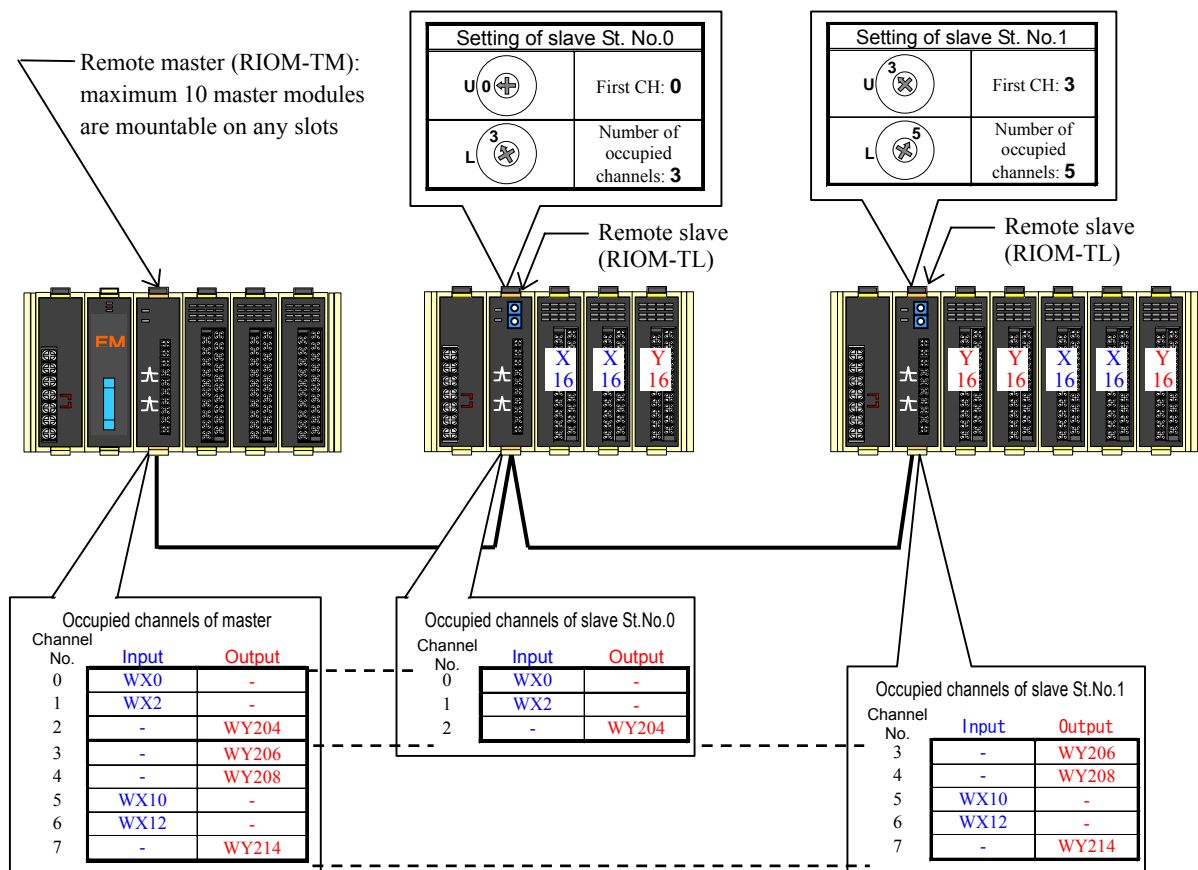
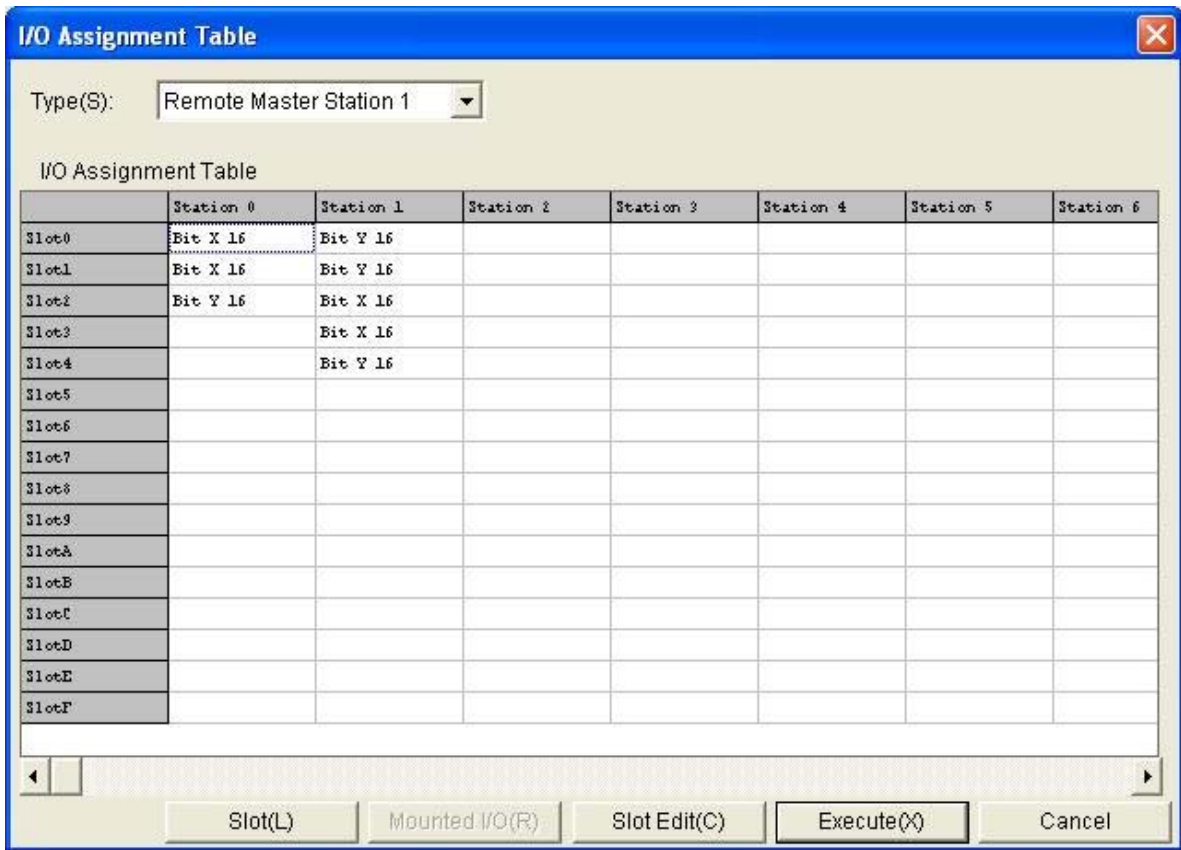
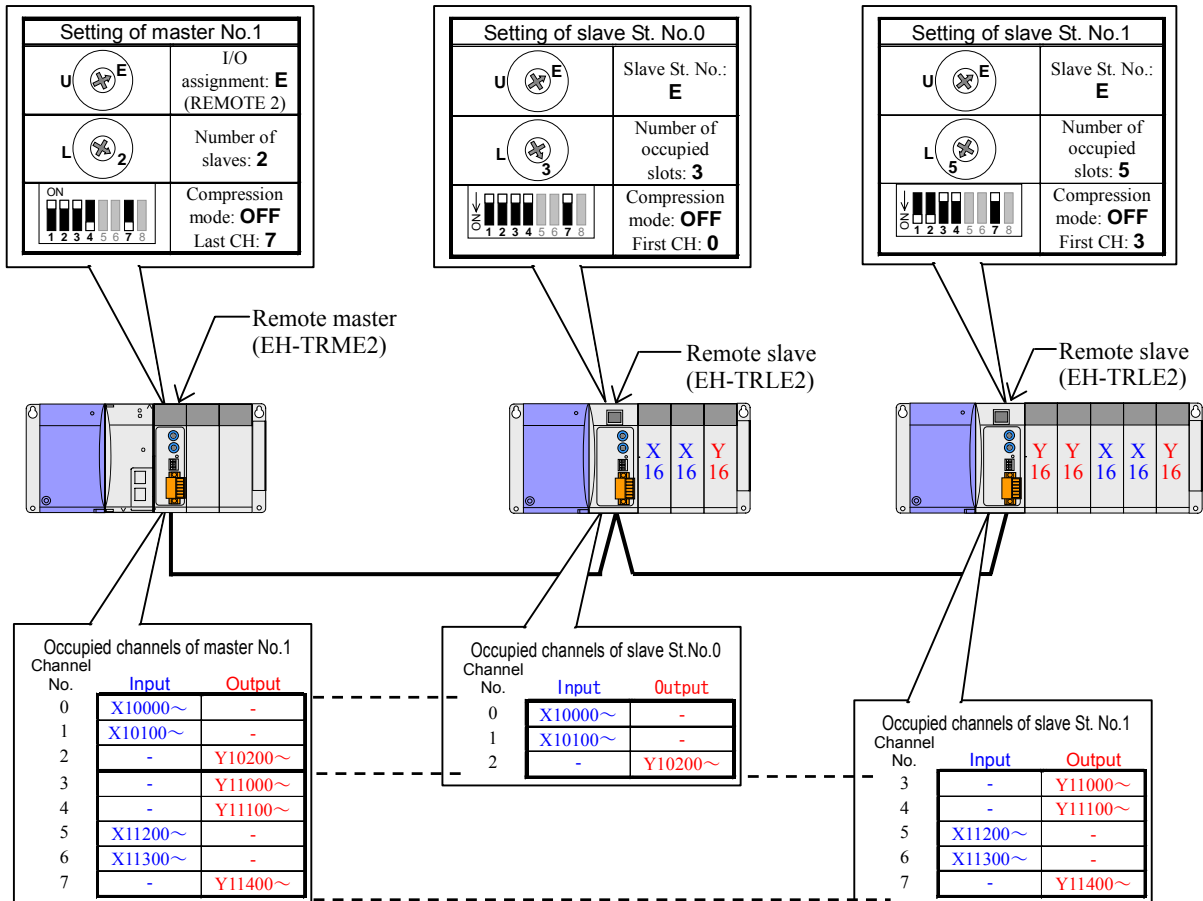
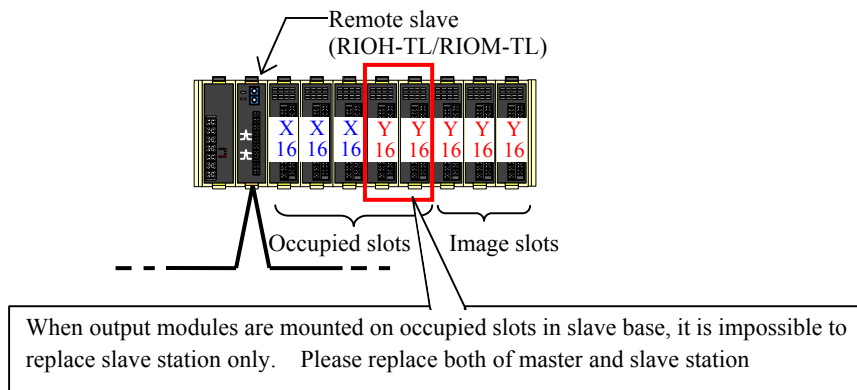

Figure 4.6.1 System configuration example of the EM/EM-II series (Not using image slot)
Figure 4.6.2 I/O assignment example of remote I/O
Figure 4.6.3 System configuration example after the replacement to EH-150 (Normal remote method)
Figure 4.7.3 Impossible case of replacement with slave station only (Output modules are mounted on occupied slots)
Figure 4.6.1 shows the system configuration example of the EM/EM-II series not using image slot. Figure 4.6.3 shows the replaced system configuration example of the EH-150 series. In the case of EM/EM-II series, it is not necessary to set I/O assignment for I/O modules, it is necessary to set I/O assignment “REMOTE2” for master module in replaced system with EH-150. Figure 4.6.2 shows I/O assignment for remote bases of this replaced system.
Figure 4.6.3 is an example of replacing all of master and slave modules with the EH-150 series. It is also possible to leave all or partially slave modules like the EM/EM-II series in order to postpone the wiring work of slaves. In this case, please set rotary switch (upper) “E” for master module and all slave modules in order to match communication protocol. Please turn off high-speed refresh mode (HS) of a front DIP switch of the master module and the slave modules, turn on communication mode (MODE) of a front DIP switch of them.
(Assignment of Figure 4.6.1 configuration example by Ladder editor)
Only input modules are mountable on occupied slots of slave base, and only output modules are mountable on image slots normally. However, in the case of the number of output modules is more than number of input modules for EM/EM-II series, output modules can be mounted in occupied slots as shown in Figure 4.7.3.
If you replace this system to EH-150 series with compression remote method, output modules on occupied slots don't operate normally. Please use normal remote method for this case as shown in Figure 4.6.3, turn off compression mode of a side DIP switch of the master module and a bottom DIP switch of the slave modules.
However, when output module is mounted on occupied slot like as Figure 4.7.3, you can't replace slave only. In this case, please replace both of master and slave station as shown in Figure 4.6.3, and use normal remote method with compression mode off.